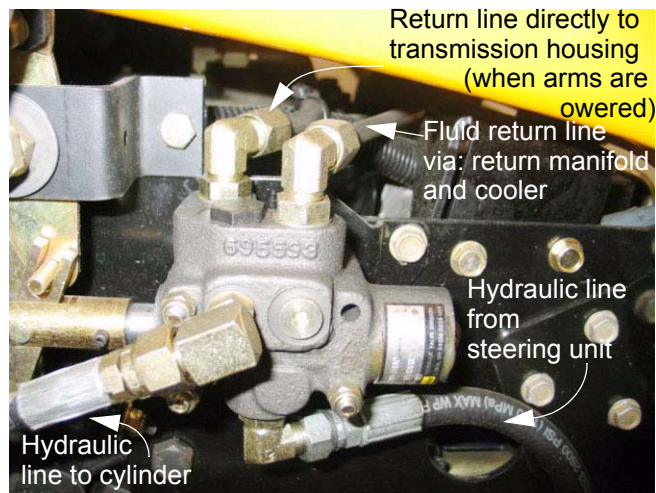

Figure 8.3
8.3. Orientation of the valve: See Figure 8.3.